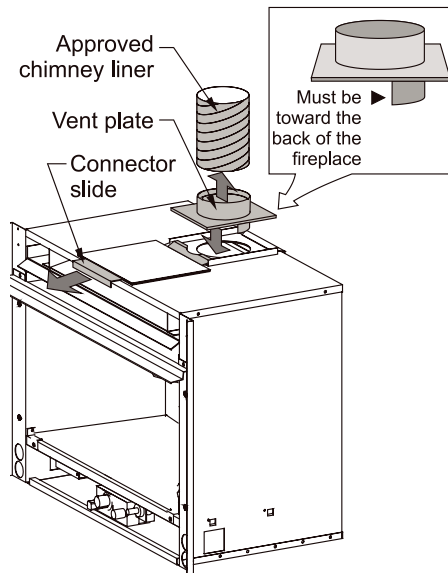

Figure 5a. Connecting the chimney liner to the vent plate.
- Use the vent plate (supplied with the Hotshot) to connect the chimney liner to the insert. Slide the flex over the vent plate and attach with two sheet metal screws. *Make sure the flange on the bottom of the vent plate is toward the back of the fireplace.* See **figure 5a.**